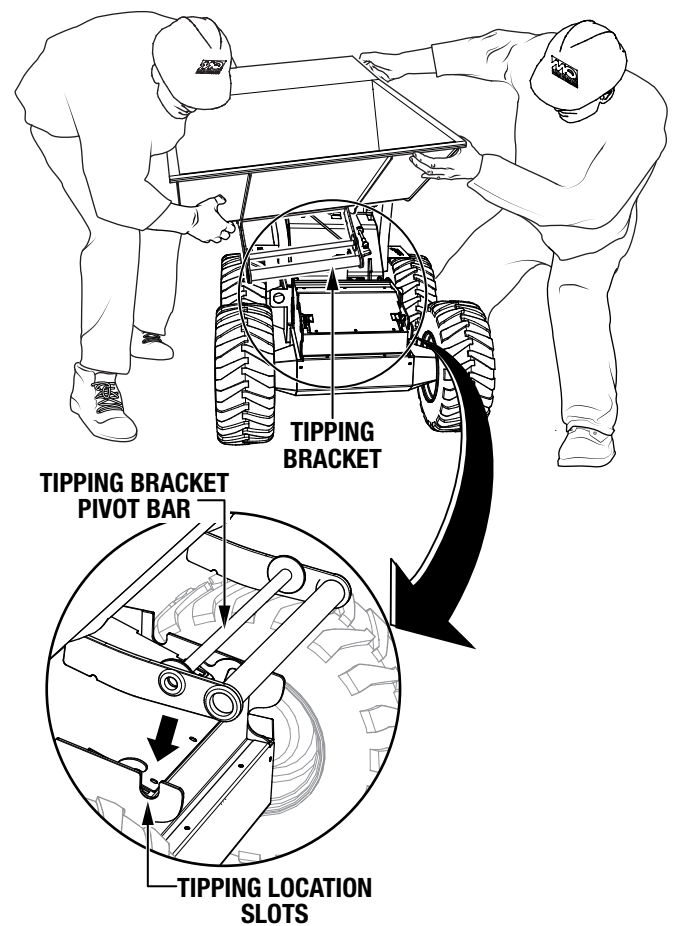

Figure 8. Tub Placement
5. **With two people**, lift the tub and tipping bracket assembly onto the chassis (Figure 8). Make sure the tipping bracket pivot bar rests within the tipping location slots.